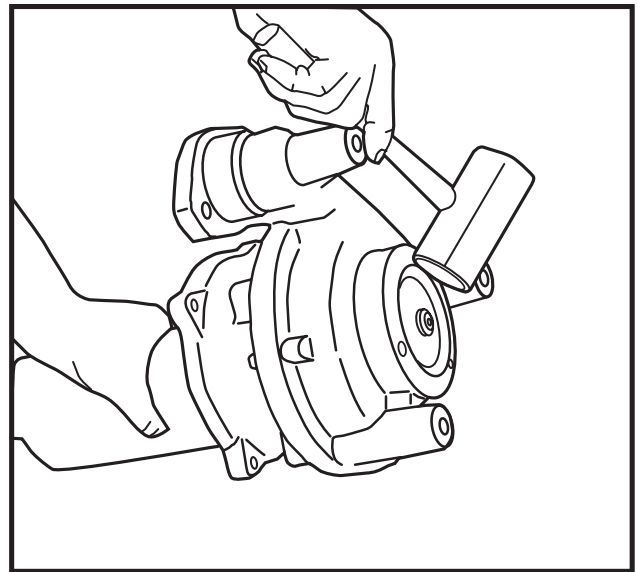
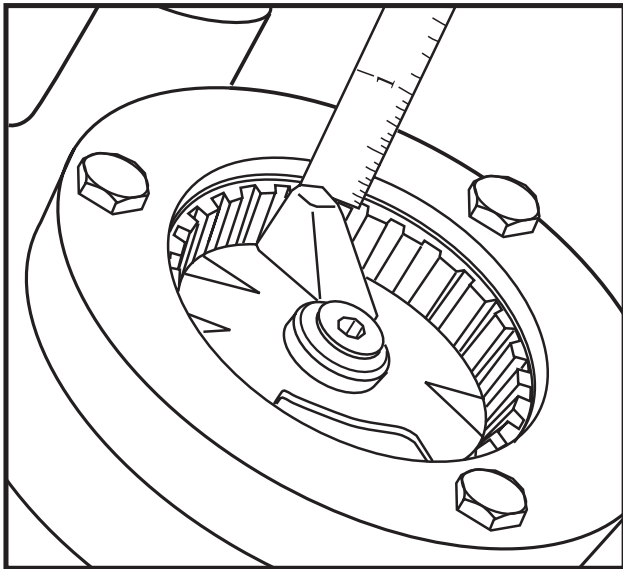

Fig. 11
Fig. 9
13. As a final check, measure distance from end of ring to bottom of impeller vanes. This should be 3/32" to 1/8". If distance is only 1/16" or less it will indicate pump impeller has partially unscrewed when grinder impeller was removed. See Figures 9 and 10. If this is the case, pump case will have to be removed to tighten pump impeller. These steps will be given in the following instructions. In rare cases if the impeller is jammed so tight it can't be removed by the steps given it will be necessary to remove the motor housing so that the motor rotor can be gripped to break loose the grinder impeller. See Figure 11.